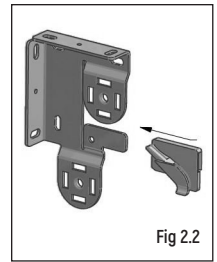

Fig 2.2
4. The chain diverters are marked L-Left and R-Right. Slide the appropriate diverter on as per the image on the right (**Fig 2.2**). To remove the diverter, a screwdriver can be used to wedge up from the bottom and release from the snap.